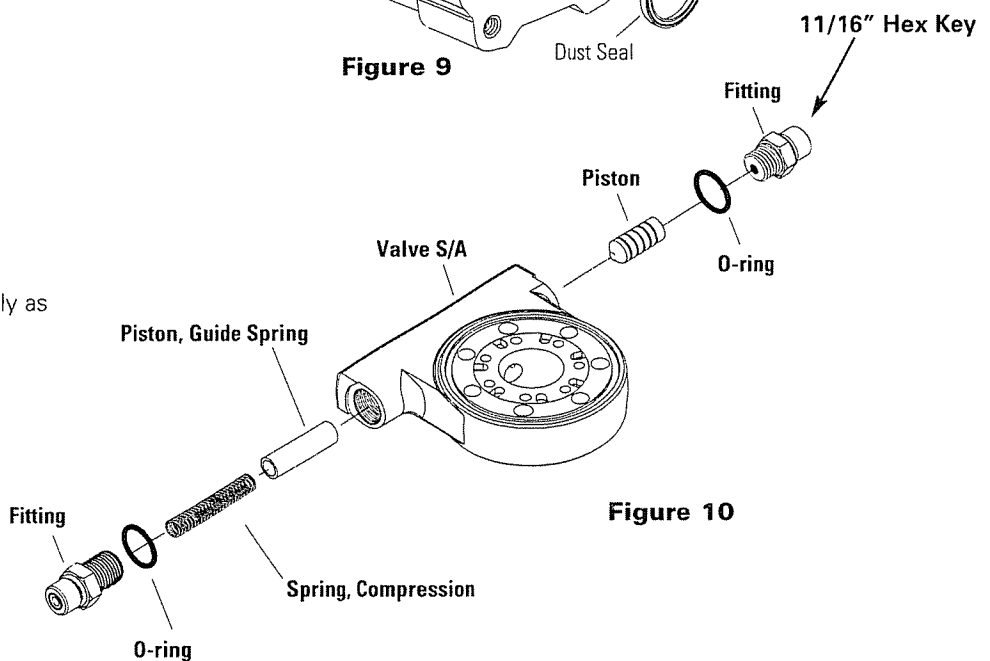

Figure 10
29. Disassemble valve sub-assembly as shown in figure 10.